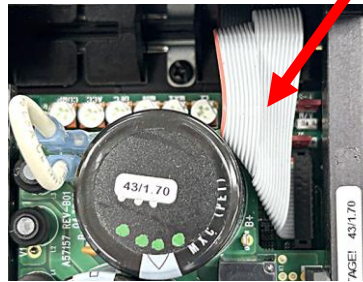

Figure 28
31. Locate the ribbon cable (see Figure 28). Under the ribbon cable is a series of jumpers. Set the jumper on J1 and J2 as shown (see Figure 29). J2 should be towards the outer edge of the VFD. Then there should be an open pin and then jumper on J1 and then an open pin. This jumper is the GFCI setting. If this setting isn't set correctly the fryer may trip a breaker during filtration.